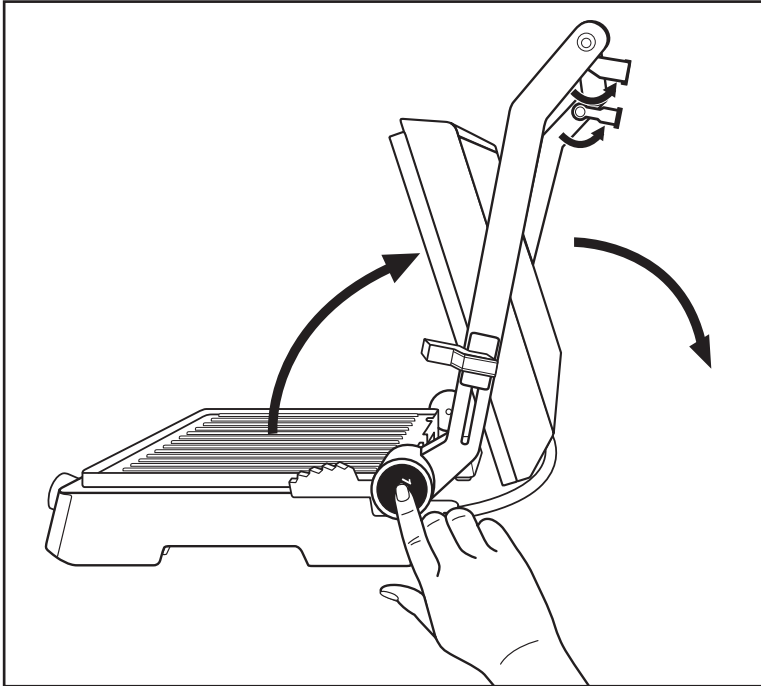

Fig. 1
- 1) Fold out both support feet ❶ (Fig. 1).
- 2) Press the unlocking button 180° ❸ (Fig. 1) and open the appliance lid until both hotplates ❷ can be used as a table grill.